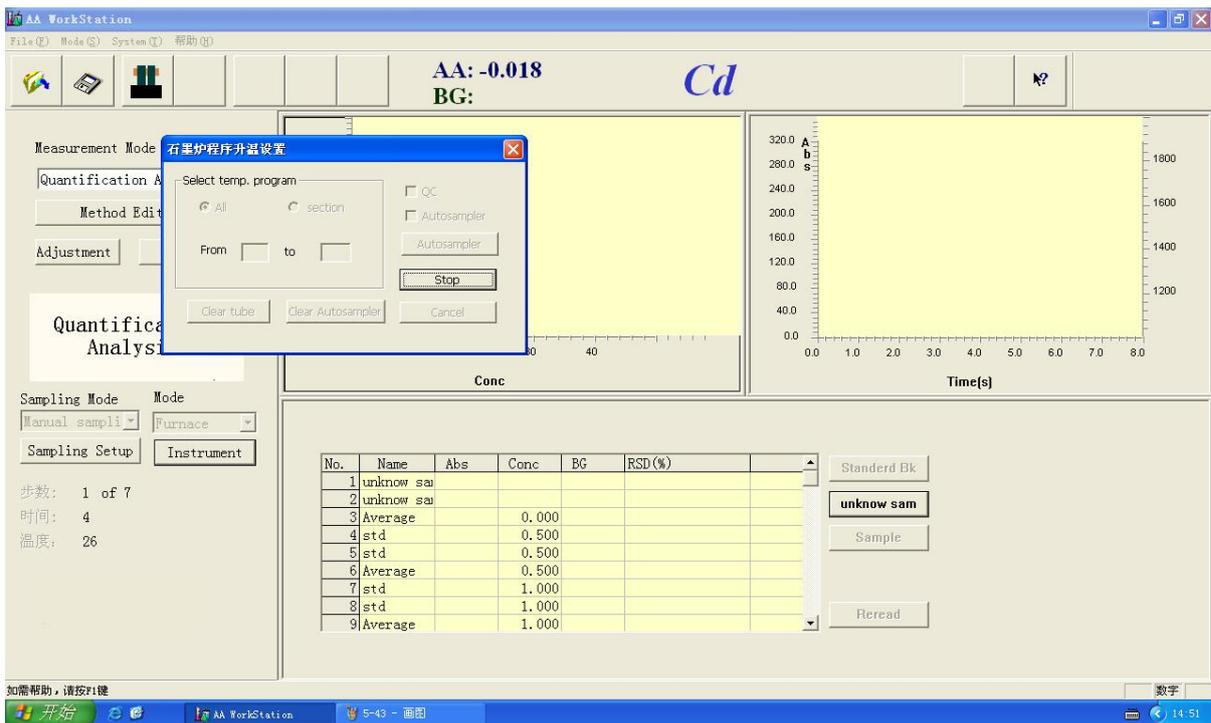

Figure 5-44
14. Sampling unknown sample. Press "Start" to start heating after sampling, at this time "Start" changes into "Stop", Figure 5-44